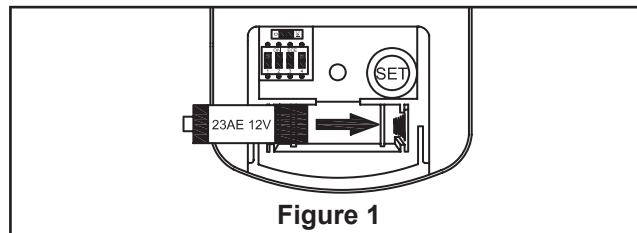

Figure 1
1. To make fan operational, install 23A/12V battery (included) in hand-held remote transmitter, with fan power off, arrange code switches to desired code setting. Then follow the remote code setting process. (If not used for long periods of time, remove battery to prevent damage to transmitter). Store the remote away from excessive heat or humidity (Figure 1).